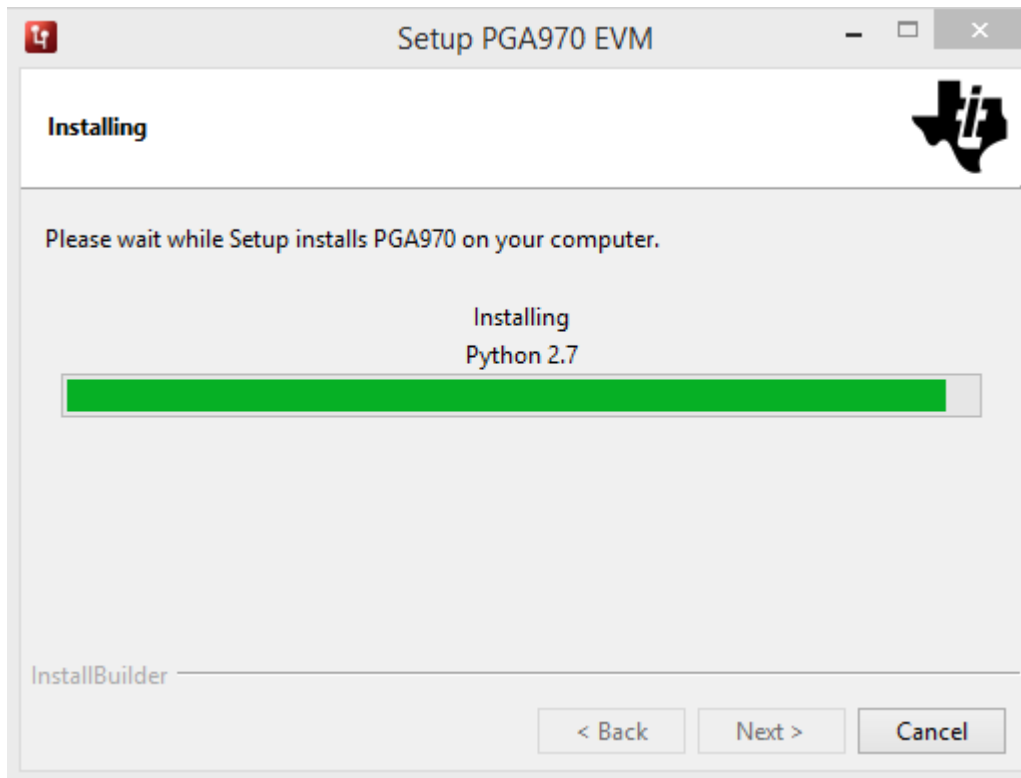

Figure 1-8. Installation in Progress
- The installer begins self-extraction and proceeds with the installation as shown in Figure 1-8.